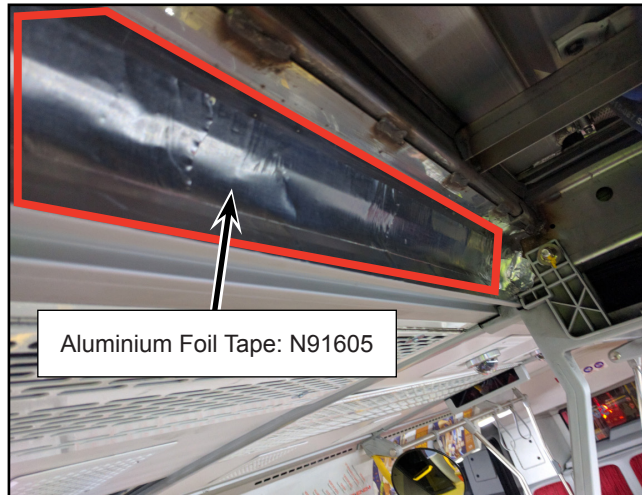

Figure 9 - Installation of Aluminium Foil Tape to Close Air Gaps
- 1.20. In the front and rear section of the vehicle, seal the air gaps using aluminium foil tape (N91605) on both sides (see Figure 9).